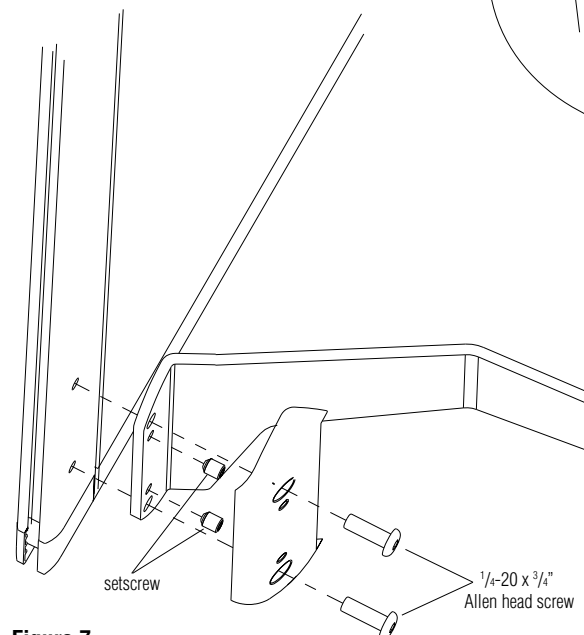

Figure 7
8. To adjust screen tilt (if required), loosen the 1/4"-20 x 1/2" Allen socket head screws and turn in top OR bottom screw to achieve vertical adjustment of screen (Figure 7). Tighten 1/4"-20 x 3/4" Allen socket head screws.